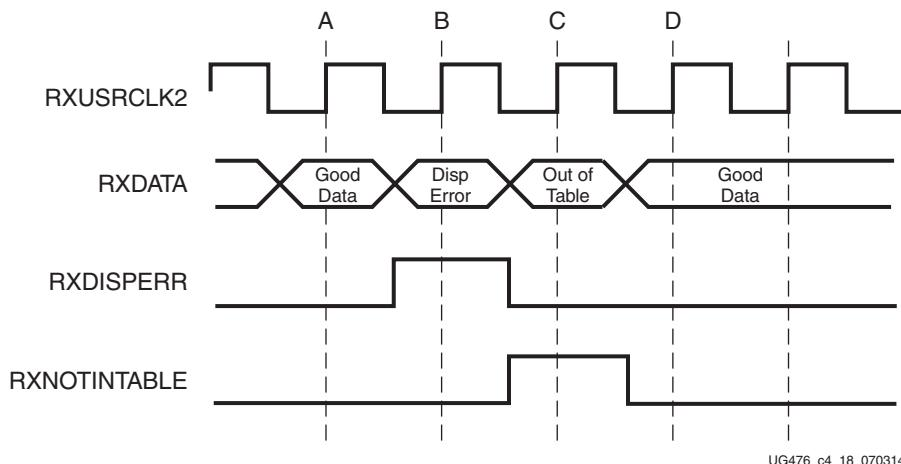

Figure 4-38: RX Data with 8B/10B Errors
Figure 4-38 shows a waveform at the RX data interface when the decoder receives good data (A), data with disparity error (B), an out-of-table character (C), and an out-of-table character with disparity error (D).